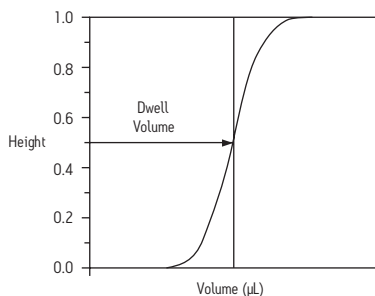

Figure 3: Determination of Dwell Volume
A second effect, called dwell volume is observed with gradient analysis. In this case, the lower flow rate causes the gradient front to take longer to reach the head of the column. To measure the dwell volume for your system, refer to the procedure, For Gradient Analysis, below and refer to Figure 3.
3. Equilibrate system with eluent A until a stable baseline is achieved. Switch to 100% eluent B and record the time at half height of the step. Refer to Figure 3 for an illustration.